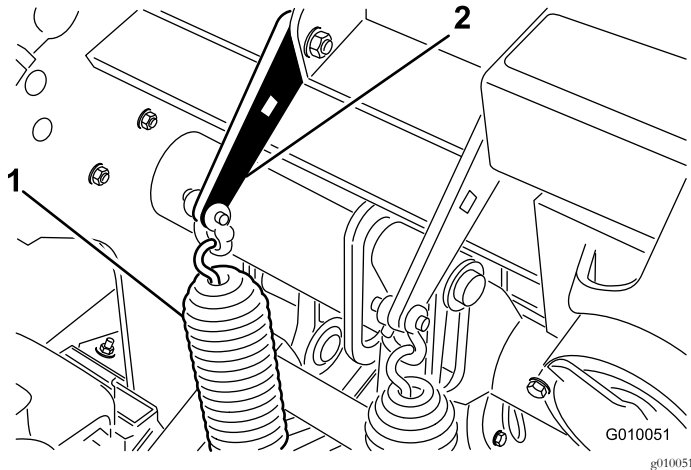

Figure 36
2. Loosen the carriage bolt nuts securing the spring brackets to the coring head (Figure 36). Do not remove them.